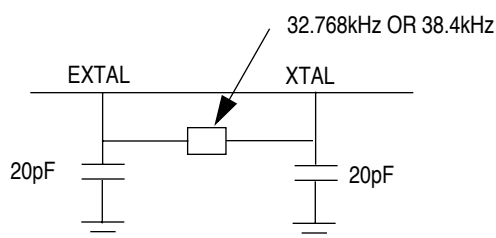

Figure 2-2. Typical Crystal Connection
- **EXTAL**—External Clock/Crystal. This input signal connects to the external low frequency crystal. The MC68EZ328 microprocessor supports both a 32.768kHz or 38.4kHz crystal frequency. For a 32.768kHz input, the internal phase-locked loop (PLL) generates the PLL output clock at 16.58MHz. Figure 2-2 illustrates how a crystal is usually connected to the MC68EZ328.